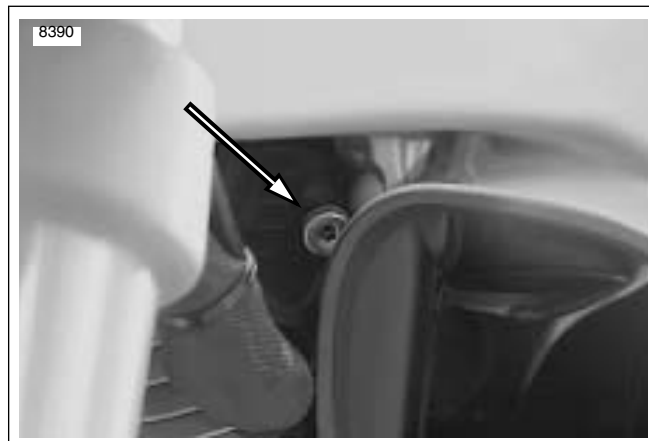

Figure 1-56. Idle Adjuster (behind left fork)
5. See Figure 1-56. Back off idle adjustment until TP volts stop decreasing and then continue to back out one full turn.